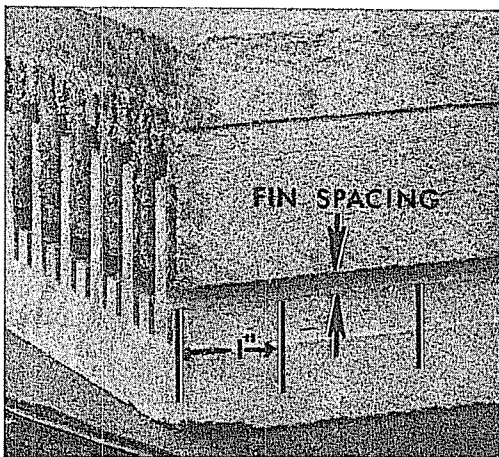

Figure 21. (8029373) Arc Chute Fin Spacing
2. The gap between the fins at the rear of the arc chute sides measured at least 1" in from the back end of the arc chute (See Figure 21) should be 1/64" to 3/32".